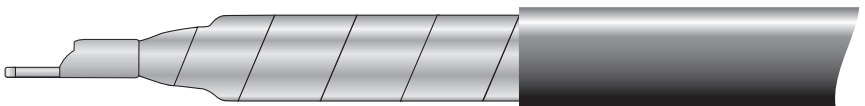

Figure 19.
- Re-wrap the copper tape back into its original position neatly over the aluminium conductors. Wrap the tape as tight as possible over the aluminium strands and place both the tape and strands into the supplied 70 mm² crimp lug and crimp securely using a suitable compression or mechanical crimping tool [Figure 19]. Note, this will require crimping at 70 mm² to obtain a secure compression.